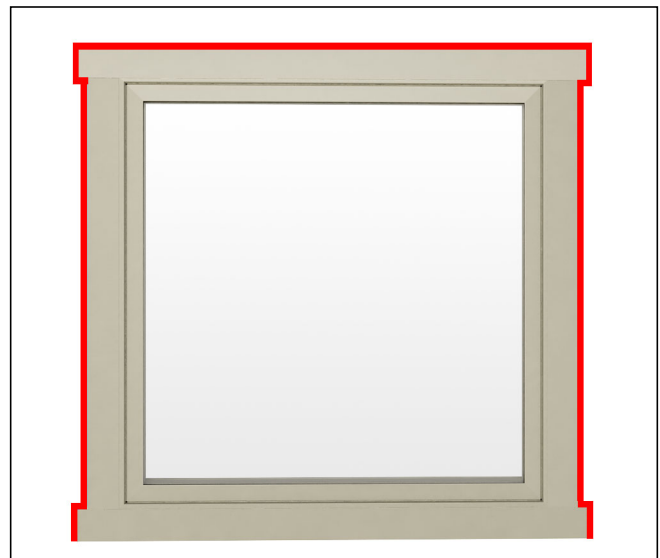

Figure 35
8. Seal casing at each jamb and head jamb to siding or weather resistant barrier. (If required, backer rod may be used.) See *figure 35*.